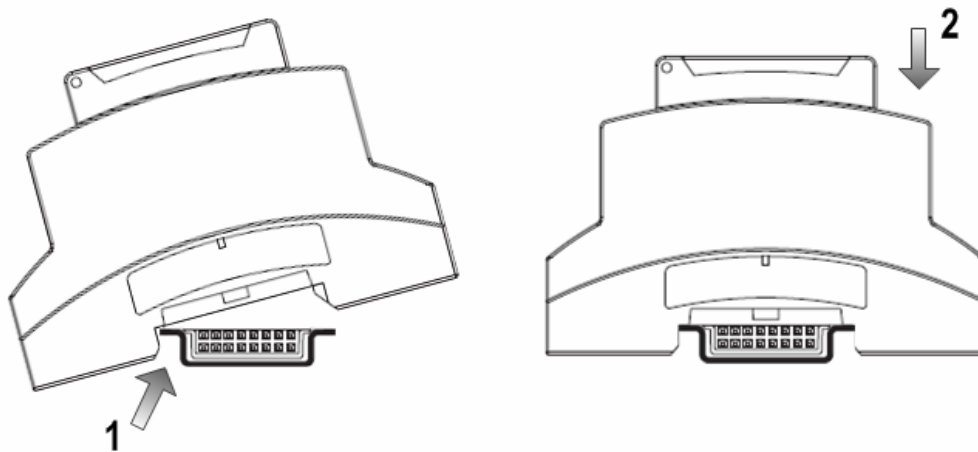

Figure 3-4 Installation Diagram of Modules
- 1) Insert any side of the module into the rail as shown in the 1st step in Figure 3-4.
- 2) Rotate the module so that the other side is also stuck to the rail as shown in the 2nd step in Figure 3-4. Then the installation is completed.